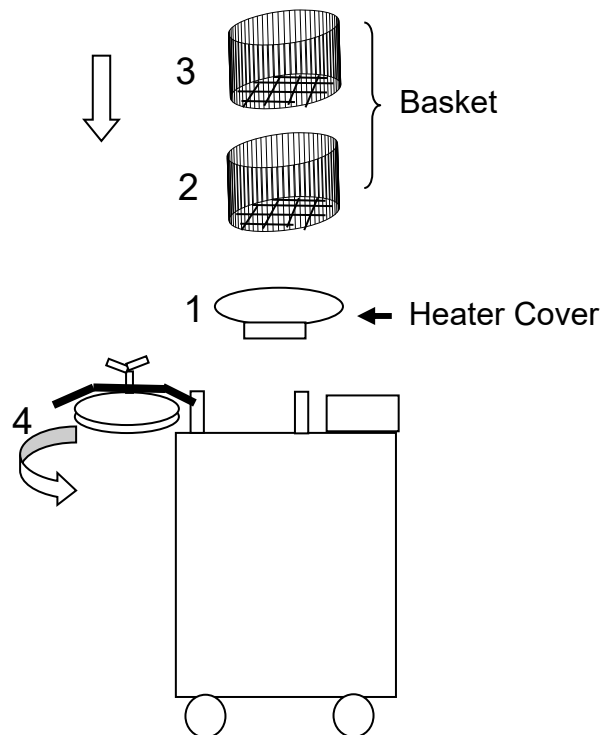

Figure 4-1
2. Place the baskets into the chamber as follows figure 4-1: